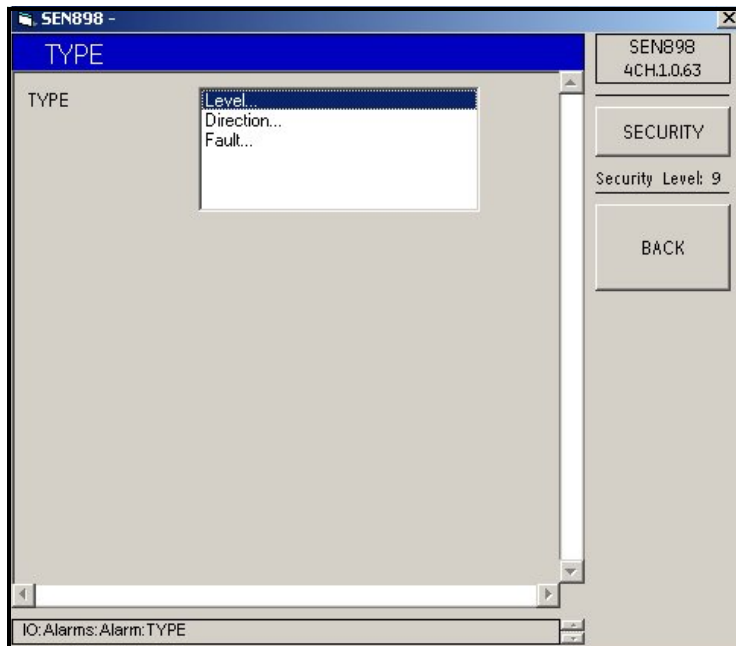

Figure 172: Alarm Type Options
- To set up the alarm direction, from the *Alarm Type Options* menu (see Figure 172 on page 136), click twice on *Direction...* The following screen appears.